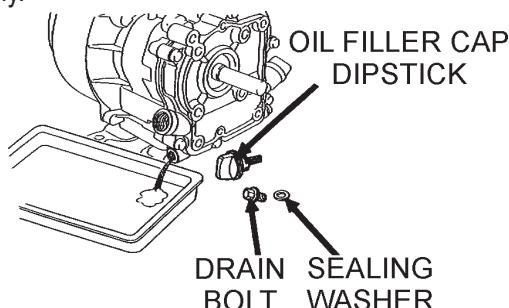

Figure 25. Engine Oil (Draining)
- Drain the engine oil when the oil is **warm** as shown in Figure 25.